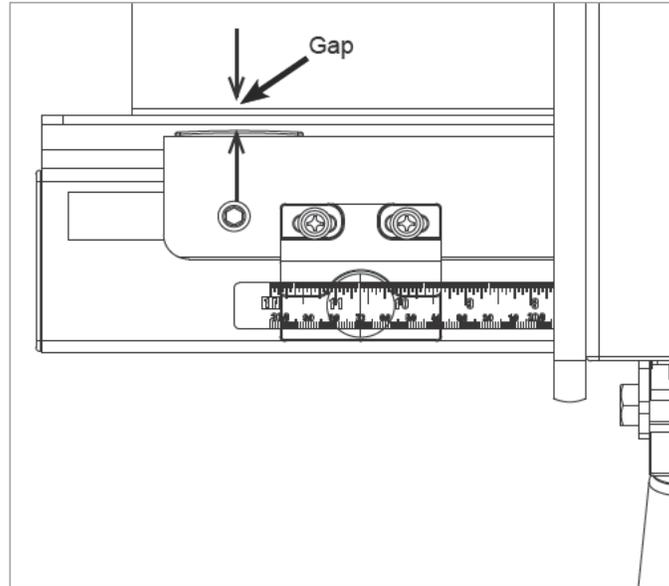

Fig. 32
21. Once the fence is tightly clamped to the front tube, move the left end of the tube back toward the saw until there is only a small gap (approximately 1/32 inch) between the front rail and the rear of the fence (See Fig. 32). Tighten the left-most M8 x 16 hex head bolt that holds the tube to the front rail using a 13 mm wrench.